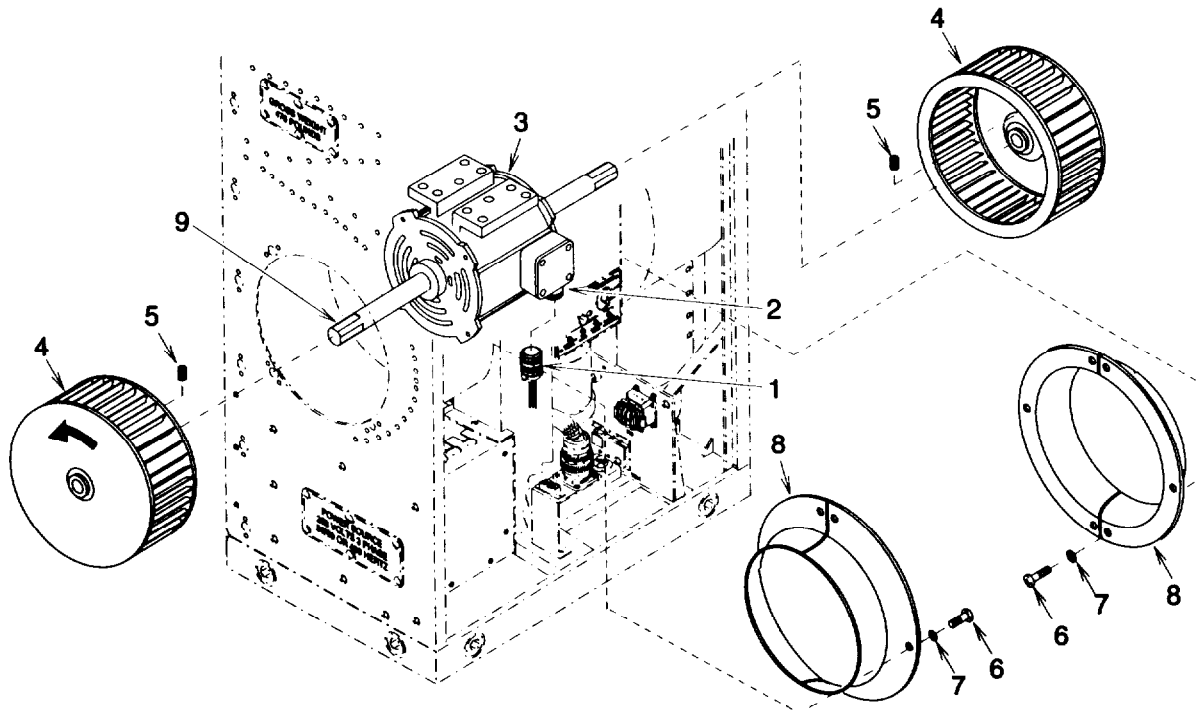
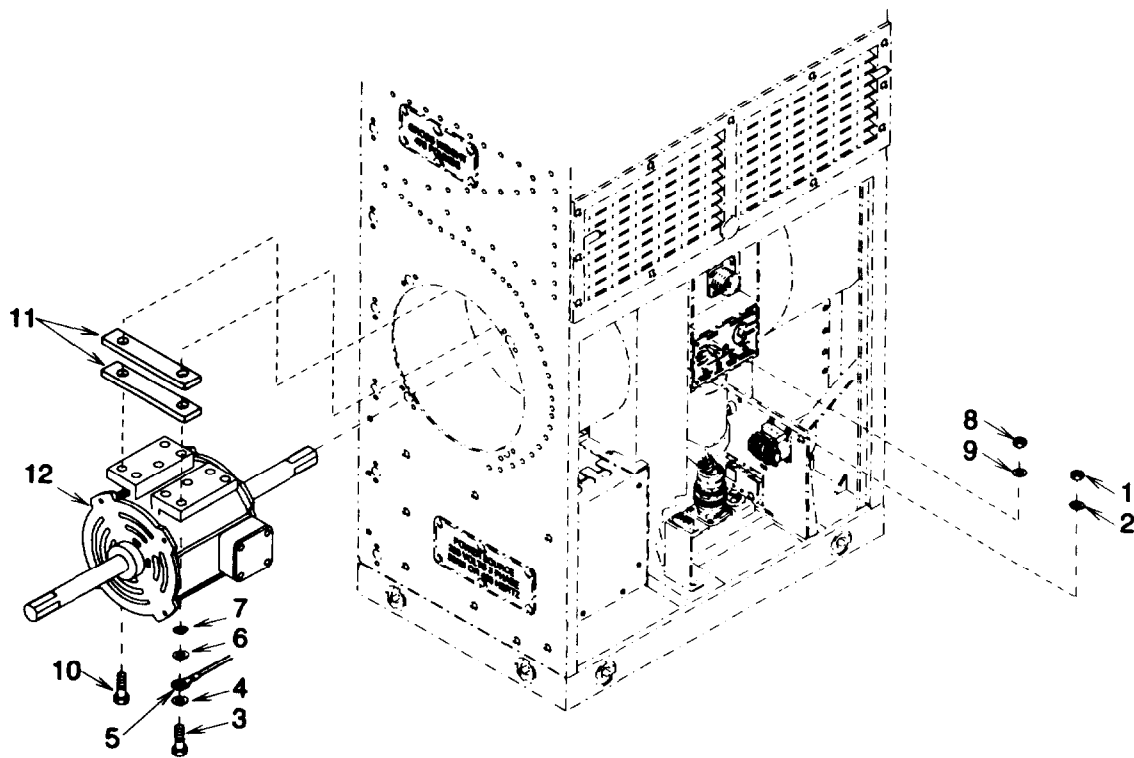

Figure 3-56. Condenser Fans
Figure 3-57. Condenser Fan Motor
- (1) Disconnect harness connector (1) Figure 3-56 from motor connector (2).
- (2) Use a multimeter set on lowest OHMS scale to check continuity between A and B, A and C, and B and C in motor connector (2). If there is no continuity between any pairs of pins, the motor winding is open. Replace motor.
- (2) Note rotation of fan (4) and loosen two sets screws (5). Remove fan (4).
- (3) Remove six screws (6), flat washers (7), and inlet bell (8).
- (4) Remove one self locking nut (1) Figure 3-57, flat washer (2), screw (3), flat washer (4), wire lead (5), flat washer (6), and lock washer (7). Discard self locking nut and lock washer.
- (1) Lift motor (12) Figure 3-57, into position and install four shims (11), three screws (10), flat washers (9), and new self locking nuts (8).
- (2) Install screw (3), flat washer (4), wire lead (5), flat washer (6), new lock washer (7), flat washer (2) and new self locking nut (1).
- (3) Install inlet bell (8) Figure 3-56, six screws (6), and flat washers (7).
- (4) Observe fan (4) rotation noted during removal and install fan onto shaft (9) and tighten two setscrews (5).
- (5) Spin fans (4) and check for any rotational interference. Adjust fans as follows; in or out on shaft (9), front to rear on mounting hardware, or up and down by changing quantity of shims (11) Figure 3-57.
- (6) Connect harness connector (1) Figure 3-56 to motor connector (2).